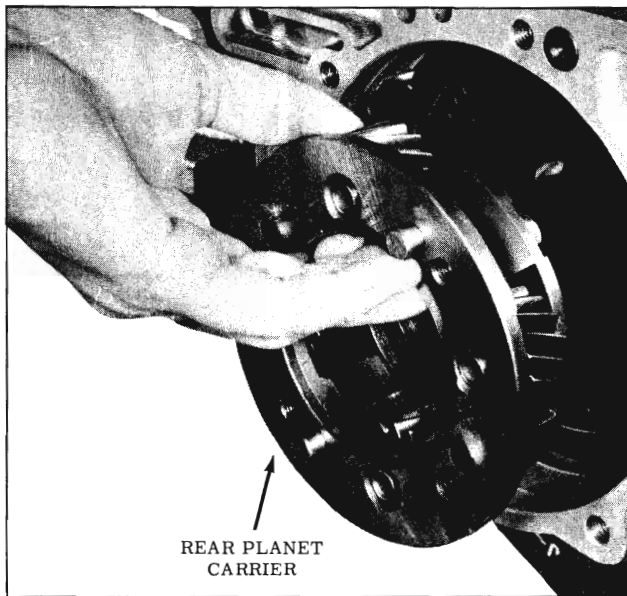

Fig. 3-100 Installing Rear Carrier
18. Install rear planet carrier through front unit sun gear shaft from rear of transmission. (Fig. 3-100)